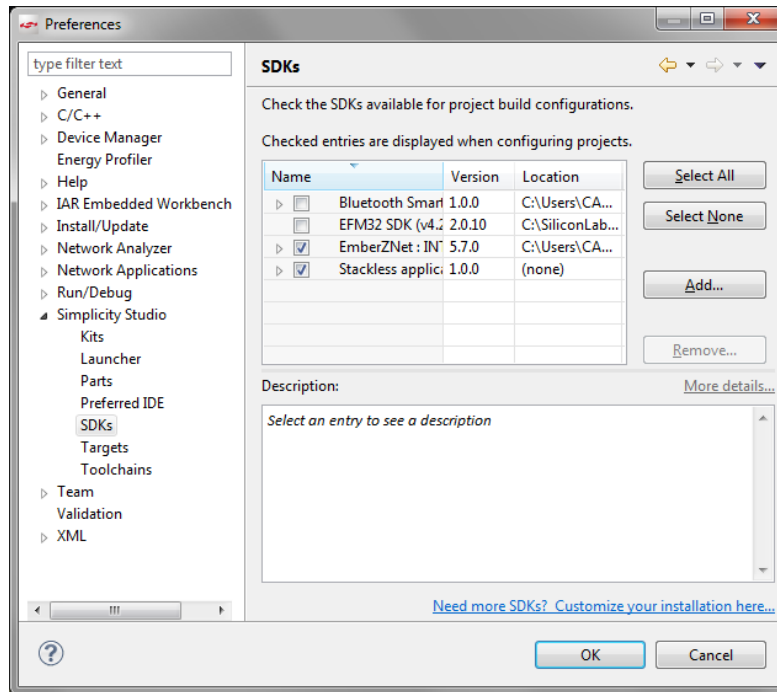

Figure 15. Silicon Labs SDK Configuration
2. In the Preferences window's left frame, click **Simplicity Studio > SDKs** to open the configuration dialog (Figure 15).